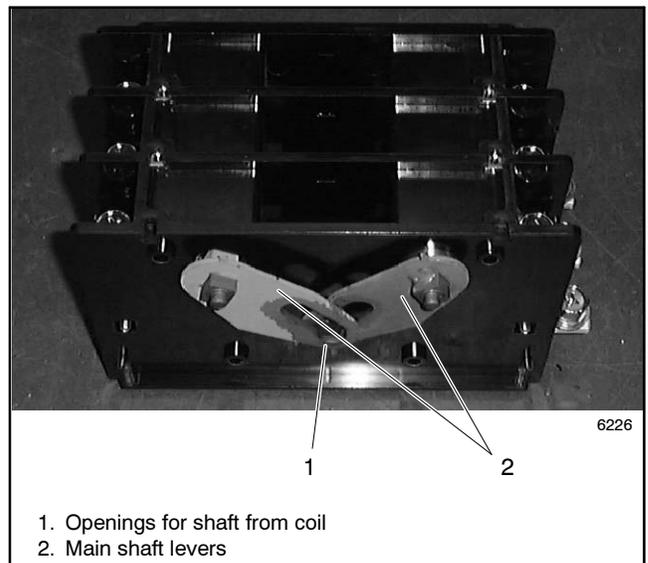

Figure 6-7 Current-Carrying Unit
1. Assemble the current-carrying unit and the mechanical unit. Make sure that the shaft from the mechanical unit goes through both main shaft levers. See Figure 6-7.